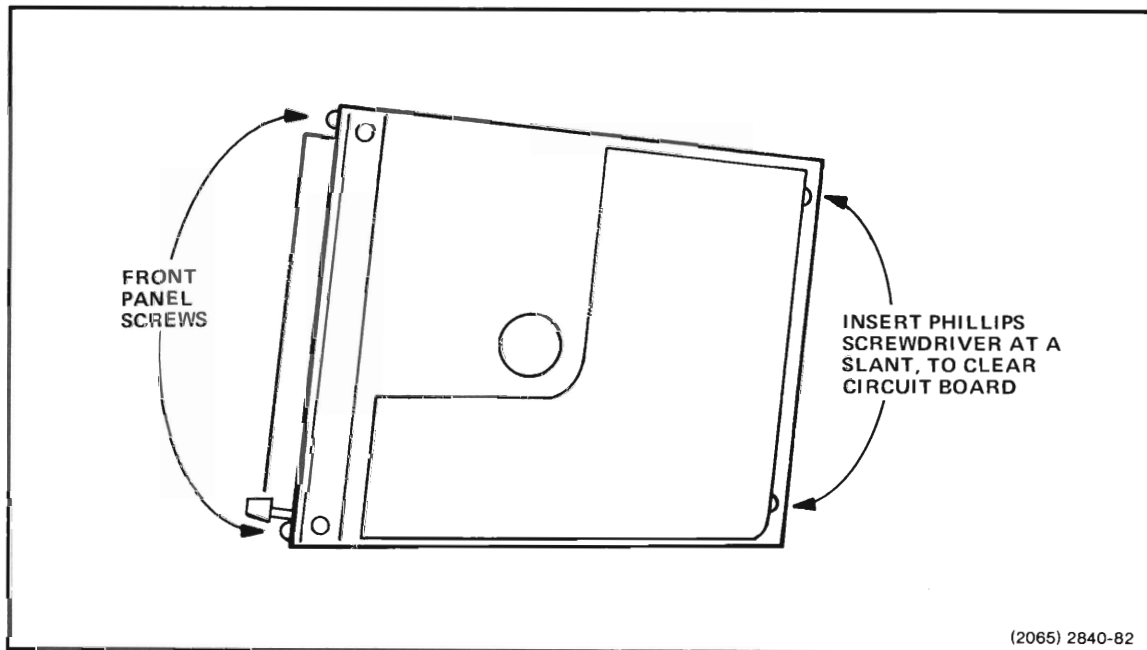

Figure 3-21. Tape Unit Mounting Screws.
1. After the instrument cover is removed, remove the two Phillips head screws on the right front of the 4052. One screw is just above the BUSY indicator light, the other is just below the EJECT button (Figure 3-21).